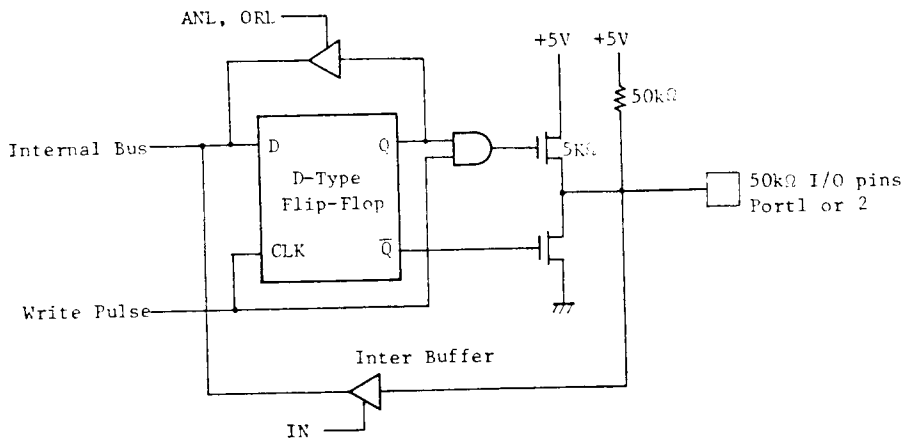

Fig.1 Input/Output Circuit of Port 1, Port 2
(3) Input/Output Ports
- . All lines of Ports 1 and 2 are called quasi-bidirectional because of a special output circuit structure (illustrated in Figure 1). Each line is continuously pulled to a +5V level through a high impedance resistive device (50k Ω) which is sufficient to provide the source current for a TTL high level yet can be pulled low by a standard TTL gate thus allowing the same pin to be used for both input and output. In order to speed up the "0" to "1" transition a low impedance device (5k Ω) is switched in momentarily whenever a "1" is written to line. When a "0" is written to line a low impedance device overcomes the pullup and provides TTL current sinking capability.